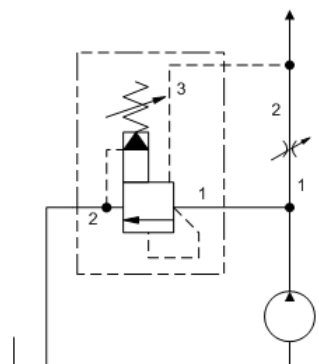

Figure 3. This drawing is not a real circuit and is intended for description only.
- Port 3 is connected to the outlet, or load side, of the orifice, and port 1 is connected to the inlet side (See Figure 3).